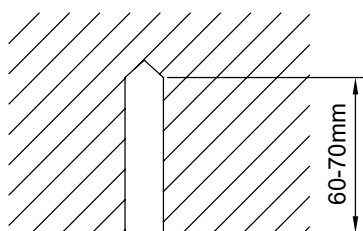

Fig.3
- (1) Install the bolts to the ceiling at a place strong enough to hang the unit. Mark the bolt positions from the installation template. With a concrete drill, drill for 12.7mm (1/2") diameter holes. (Fig. 3)